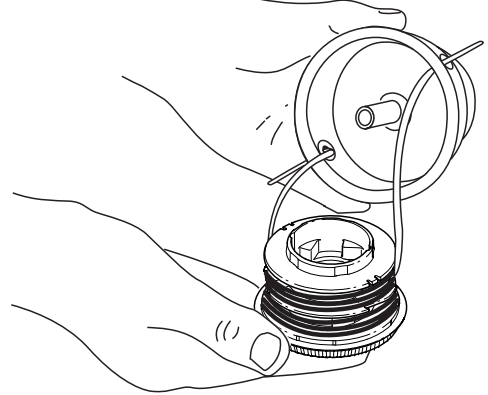

Fig. 15
3. Insert the ends of the prewound inner reel line into the outer spool eyelets (Fig. 15). Push the new inner reel, arrow side up, into the outer spool.